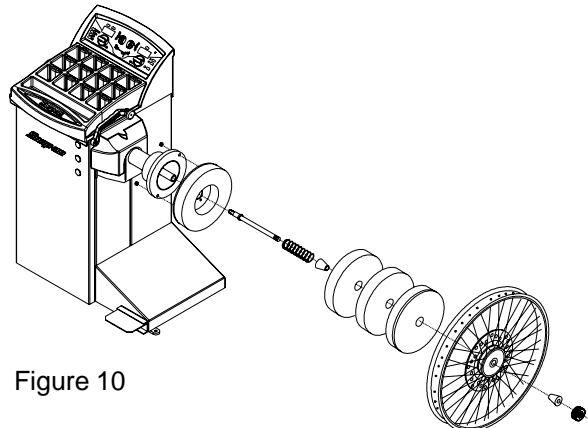

Figure 10
2. Select additional pressure discs if required, and slide them over the spindle, cone and compression spring. When using the laminated pressure disc, always face the laminated side toward the wheel. See Figure 10.